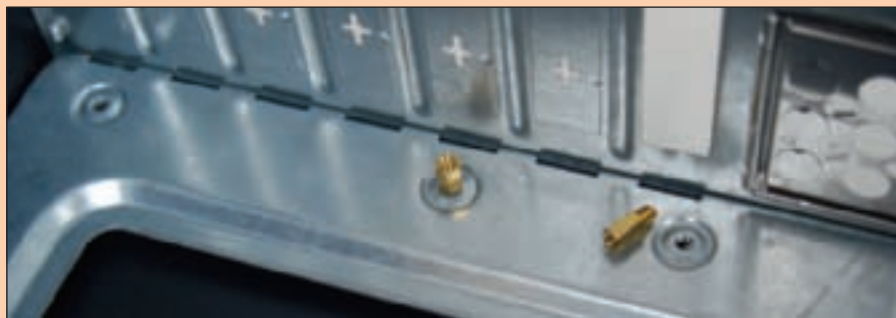

Figure 6-50 Spacers installed in case holes keep the motherboard from causing a short
8. Lance purchases a new power supply and motherboard, and this time, carefully uses spacers in every hole used by the motherboard screws. Figure 6-50 shows one installed spacer and one ready to be installed. The system comes up without a problem.